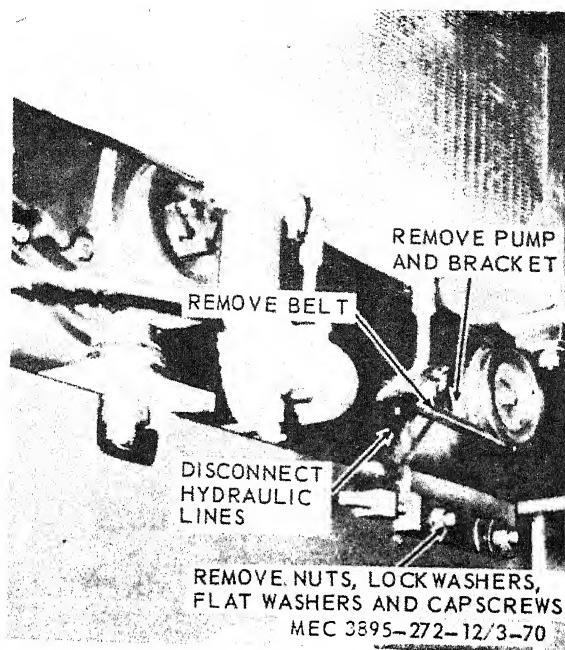

Figure 3-70. Hydraulic pump, removal and installation.
- a. Removal. Remove the hydraulic pump as instructed on Figure 3-70.
- (1) Clean all parts with an approved cleaning solvent.
- (2) Inspect the pump for damage and proper operation. Replace a damaged or inoperative pump.
c. Installation. Install the hydraulic pump in reverse of the instructions on figure 3-70.